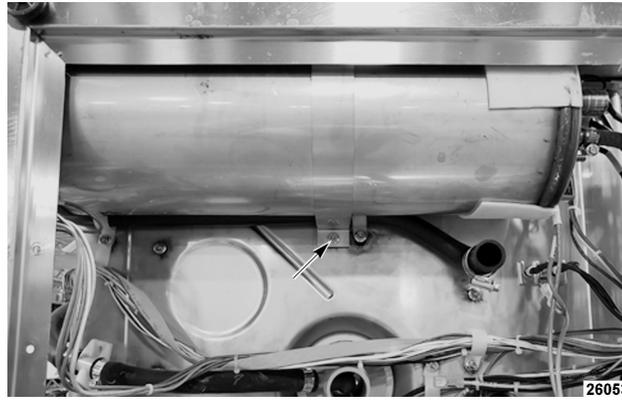

Fig. 35
7. Remove nut to booster strap and remove booster (Fig. 35).